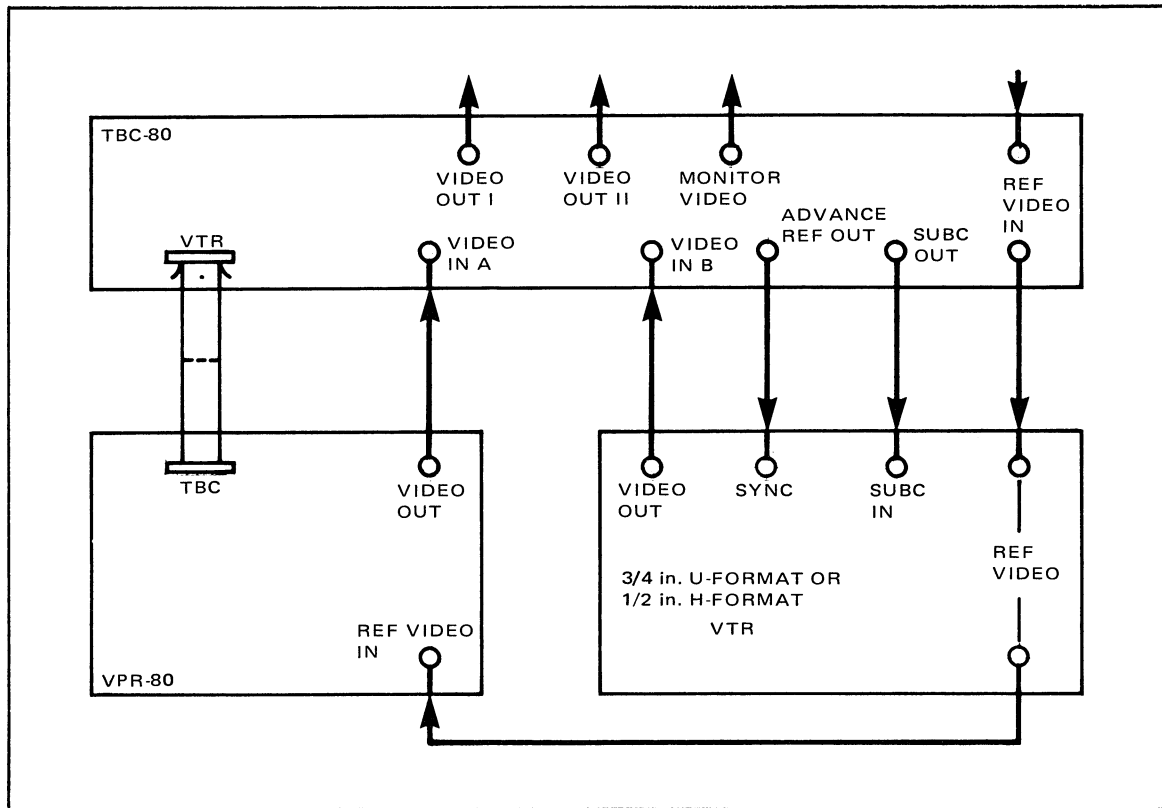

Figure 2-7. TBC-80 to VPR-80 and Heterodyne VTR Interconnections
- STEP 2 Interconnect TBC-80 with both VTRs as shown in Figure 2-7.